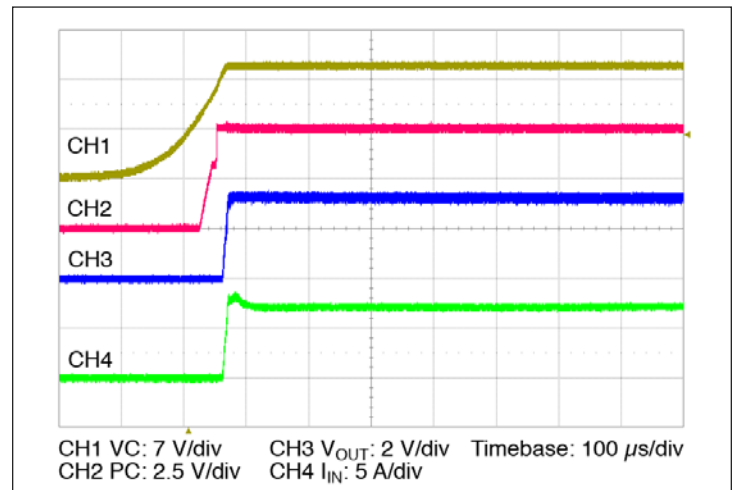

Figure 14 — Start up from application of V_C ; V_{IN} pre-applied
- Stand Alone Operation (VC applied after V_{IN}): In this case the module output will begin to rise upon the application of the VC voltage (See Figure 14). The Adaptive Soft Start circuit (See Section 10) may vary the output rate of rise in order to limit the inrush current to its maximum level. When starting into high capacitance, or a short, the output current will be limited for a maximum of 900 µsec. After this period, the adaptive soft start circuit will time out and the module may shut down. No restart will be attempted until VC is re-applied, or PC is toggled. The maximum output capacitance is limited to 4000 µF in this mode of operation to ensure a successful start.